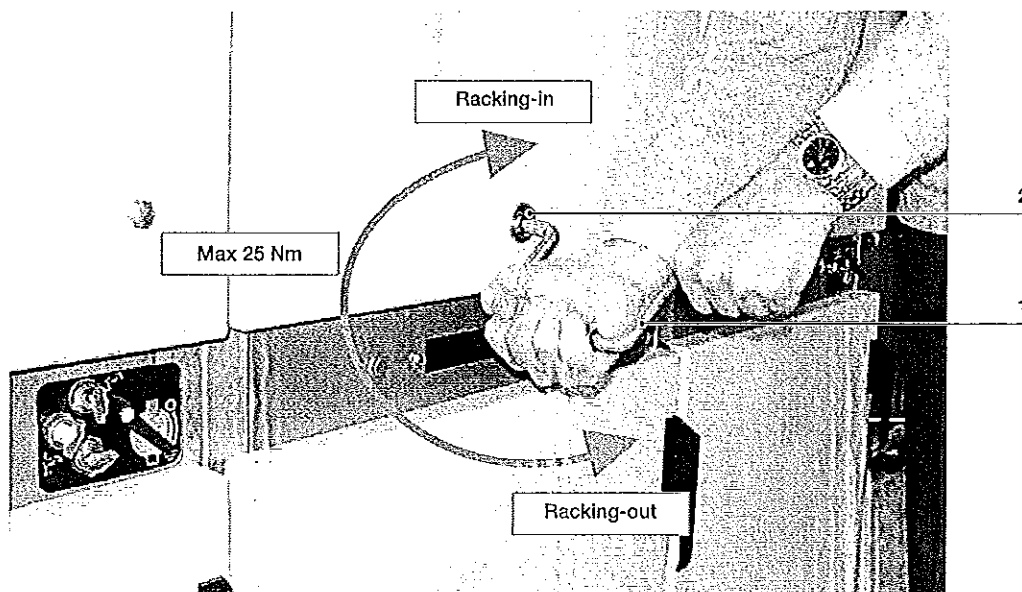

Fig. 9
For racking-in/racking-out of the switchgear, fully insert the lever (1) (fig. 9) in the appropriate seat (2) and work it clockwise for racking-in, and anti-clockwise for racking-out, until the limit switch positions are reached.
- Insert the manual racking-in lever (1) in the special coupling (2) Fig. 9, and take the motorized truck to about half its run between the isolated for test and the connected position. The torque needed to carry out truck handling is  $\leq 25 \text{ Nm}$ . In the case of accidental inversion of the truck motor power supply polarity, this operation allows a possible error in direction to be dealt with without any damage. Verification checks:
- Remove the manual lever (1) from the coupling (2) Fig. 9